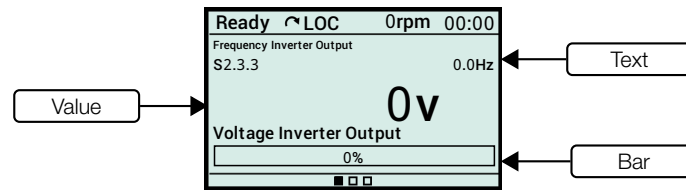

Figure 8.12: Inline View
- Line:** In one line, it is possible to display a reading variable in the format **text, value or bar**. The figure 8.12 shows an example with the 3 formats.